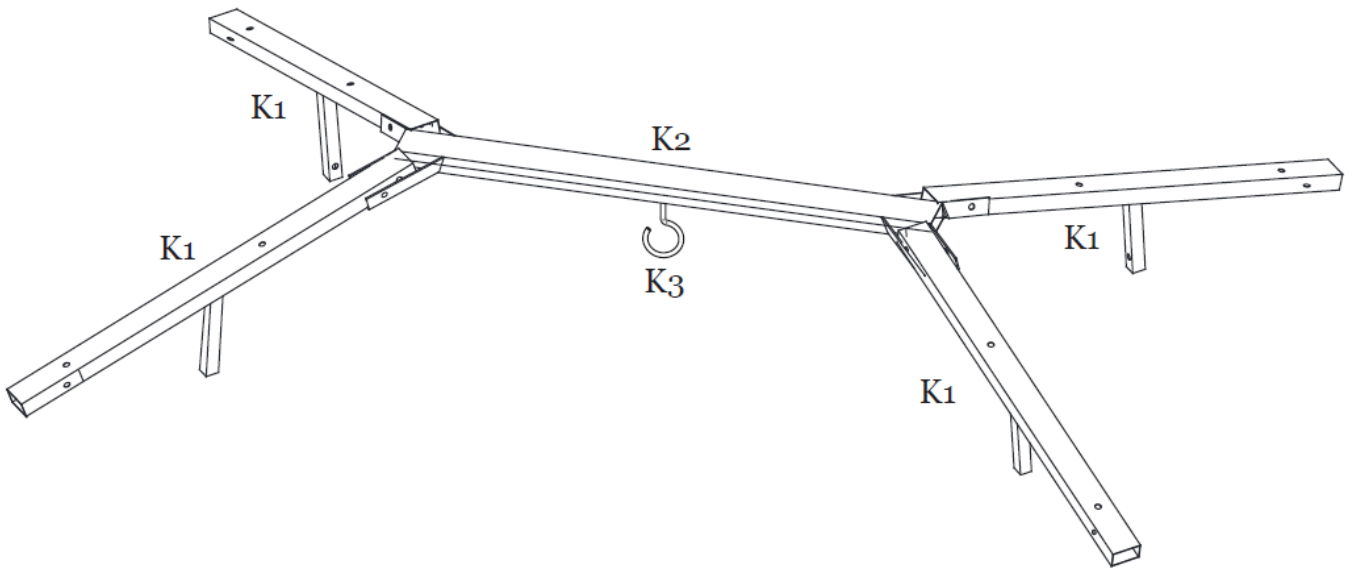

Figure 8-3
Step 8C: Repeat for all corners. **Tighten all Bolts.** See Figure 8-3.